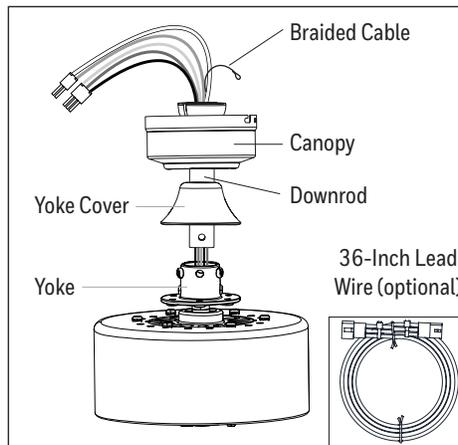

Figure 2.5
5. Insert the downrod through the canopy and yoke cover. Feed the wires and braided cable from the fan through the downrod. Depending on the length of downrod you use, you may need to use the 36-inch lead wires to accommodate a 36 or 48-inch downrod (sold separately). When necessary, connect the 3-pin and 2-pin connector extending from the center of the downrod to one end of the 36-inch lead wires. Note: The downrod included with this fan will not utilize the 36-inch lead wires (Figure 2.5).